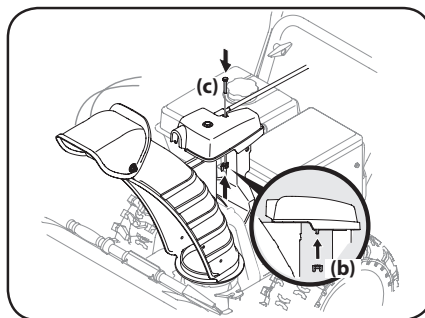

Figure 2-41
4. Finish securing chute control head by installing hex screw (c) and wing nut (b) removed in Step 1. See Figure 2-41.